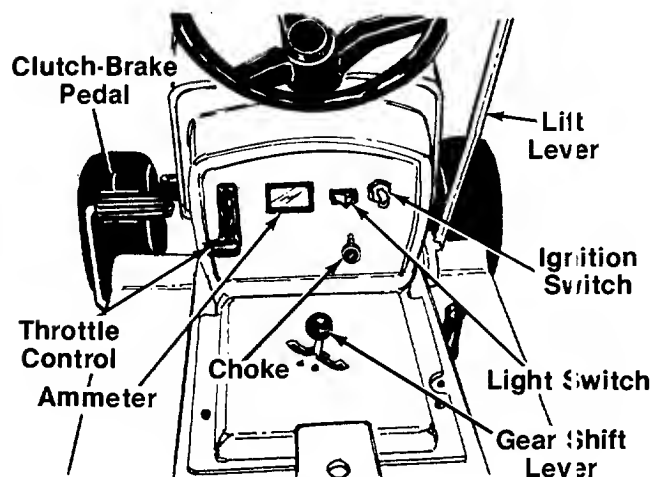

FIGURE 9.—Models 704 and 714 Shown
The throttle control is used to regulate the engine speed. To get maximum efficiency from cutting, the throttle should be in the FAST position when operating the mower. See figure 9.
The choke control is located on the dashboard and is operated manually. Details for the choke operation are covered in the separate engine manual packed with your unit. See figure 9.
The shift lever is located on the left side of the console and has three positions, FORWARD, NEUTRAL and REVERSE. See figure 9. The clutch-brake pedal must be depressed and the lawn tractor must not be moving when shifting gears. Do not force the shift lever. Release the clutch-brake pedal slightly to line up the shifting collar in the transmission. Then try to shift gears.
ON position. To stop the engine, turn the key to the left to the OFF position and remove it to prevent accidental starting. See figure 9.
Push the light switch to turn on the lights. The lights will only operate when the engine is running. See figure 9.
The ammeter registers the rate of battery charge or discharge. The ammeter will register on the discharging side when starting the engine. It should register on the opposite side (charging) when the engine is running in the fast position until the battery is completely charged. With a fully charged battery or with the engine idling, the ammeter will not show a charge. See figure 9.
The clutch-brake pedal is located on the left side of the lawn tractor. Depressing the clutch-brake pedal part way disengages the clutch. Pressing the pedal all the way down disengages the clutch and engages the disc brake. See figure 9.
4. Set the throttle control in the FAST position. See figure 9.
6. Turn the ignition key to the START position. When the engine is running, let the key return to the ON position. See figure 9.